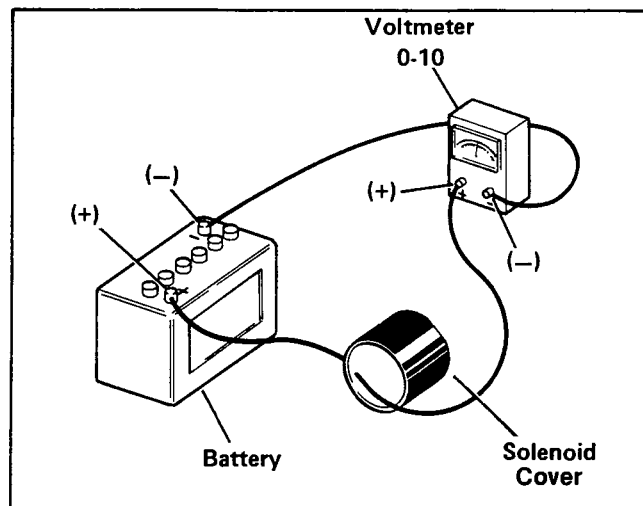

Figure 1. Proper Test Setup
2. First connect jumper wire to outside solenoid cover and battery positive post. Then connect voltmeter to inside solenoid boot and battery negative post (see Figure 1).